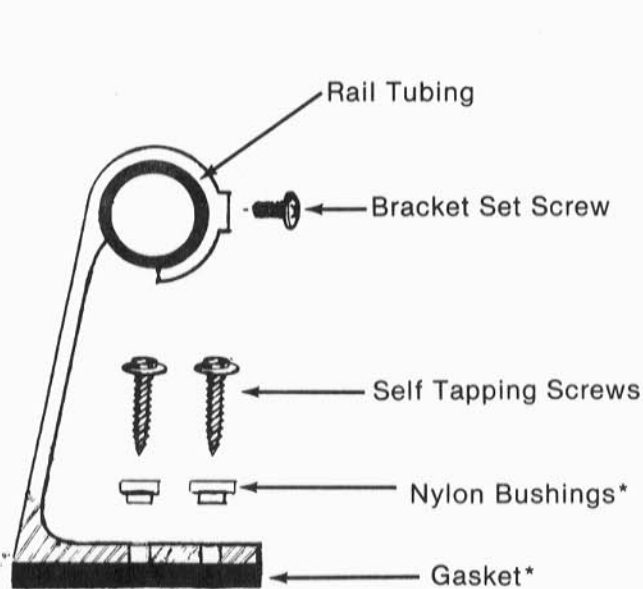

Figure 1 — Bracket Mounting Detail
4. Insert plastic bushings in each screw hole, and attach rack to roof with slotted Hex Head Self-Tapping Screws supplied with rack. (See Figure 1) If Hex Head Driver is not available, mark and pre-drill roof with 1/8" diameter holes and assemble screws with screw driver.